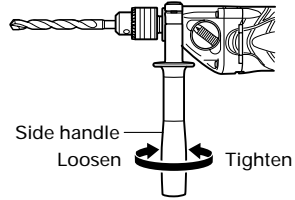

Fig. 7
7. Fixing the side handle (Fig. 7)